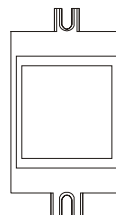

Figure 4: Lens Frame
6. Position the lens frame (Figure 4) at the required vertical adjustment and tighten the screws – see *Vertical Adjustment*.